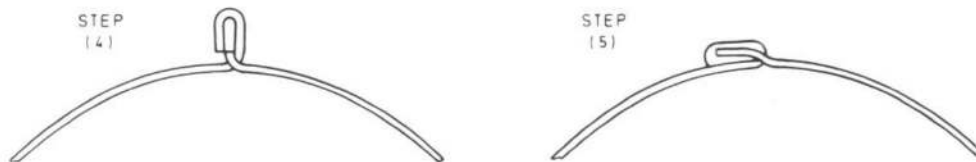

Fig.4 Securing the identification band
- (1) Remove burrs and sharp edges from the band.
- (2) Bend the end to approximately 90° at the slot.
- (3) Wrap the band around the hose, insert the tab through the slot, pull up snug and bend the tab perpendicular to the hose.
- (4) Fold the tab end through 180° over the slotted end of the band (see fig. 4).
- (5) Bend the folded tab down flat against the band so that the tab end is trapped (see fig. 4).